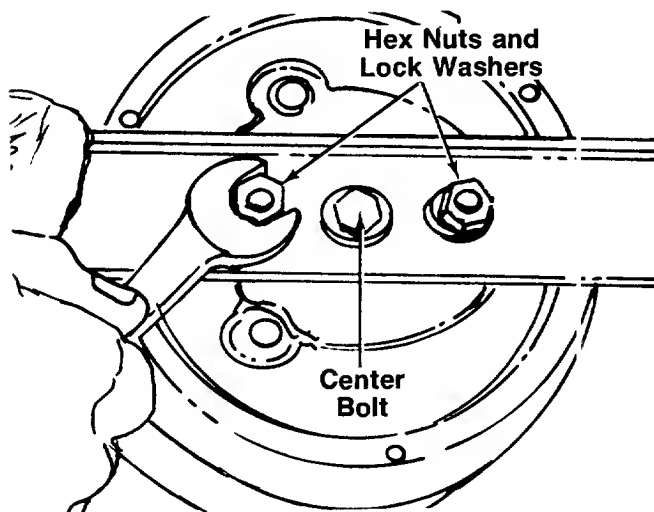

FIGURE 22.
To remove the cutting blade for sharpening or replacement, remove the two hex nuts and lock washers which hold the blade to the blade brake/clutch. Protect hands by using heavy gloves or a rag to grasp the cutting blade. See figure 22.
9. Tip the mower on its side. Remove the blade by removing two hex nuts and lock washers. Refer to figure 22.